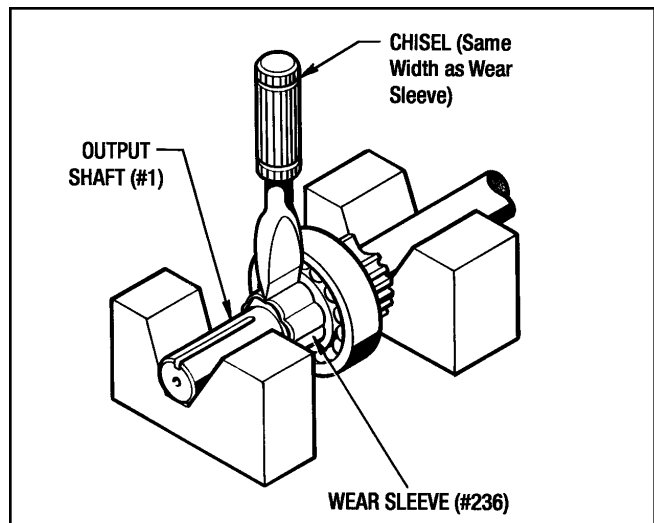

Figure 7.6 - Removing Wear Sleeve (#236) on 1.5 Posidyne (01 and 1.5 Posidyne)
(See Figures 7.6 and 10.1 and 10.2)
2. Remove the Wear Sleeve (#195) from the Input Shaft. The procedure is the same as the one shown in Figure 7.6 for the Wear Sleeve (#236) on the output shaft of the 1.5 Posidyne.
2. Remove the Wear Sleeve (#195) from the Input Shaft. The procedure is the same as the one shown in Figure 7.6 for the other Wear Sleeve (#236) on the 1.5 Posidyne.
3. Remove the Wear Sleeve (#236) from the Output Shaft as shown in Figure 7.6.
3. Remove the Wear Sleeve (#236) from the Output Shaft with the same procedure as shown in *Figure 7.6*.